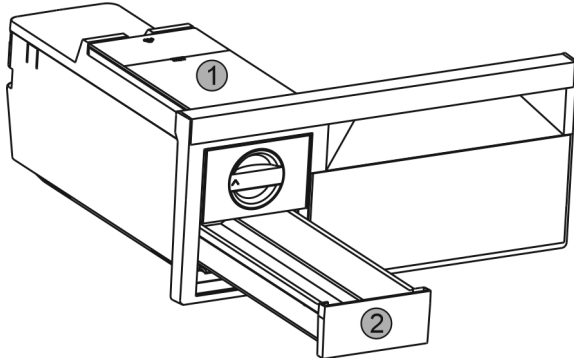

Fig. 37
- ▶ Take out the water tank Fig. 37 (1) and ice cube drawer Fig. 37 (2).